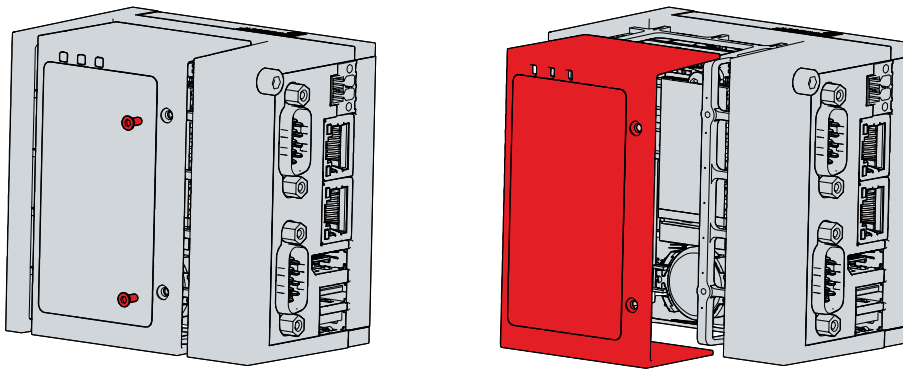

Fig. 28: Access to battery and storage media
You now have access to the battery (1) and storage medium (2) (see fig. 28).